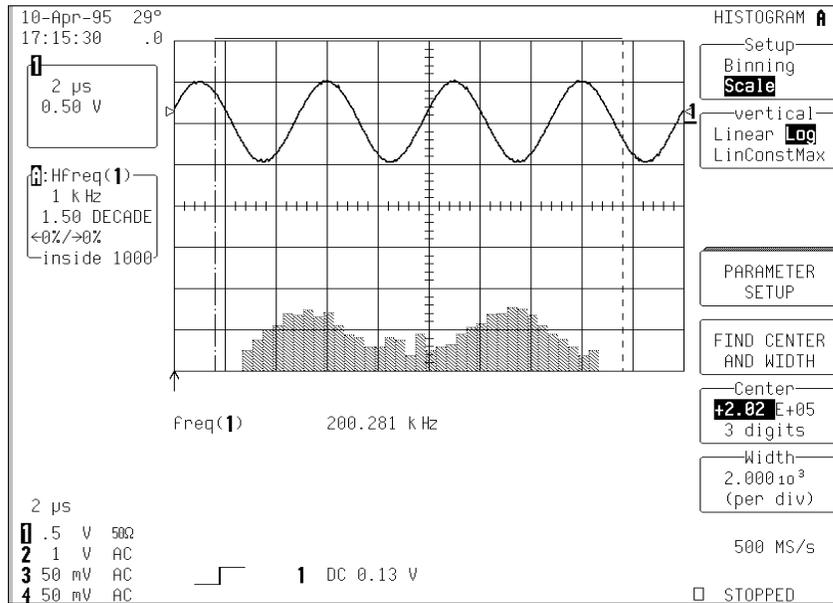

Figure 14-6.
**Log** sets the vertical scale as logarithmic (Figure 14-6). Because a value of '0' cannot be specified logarithmically, no baseline is provided.